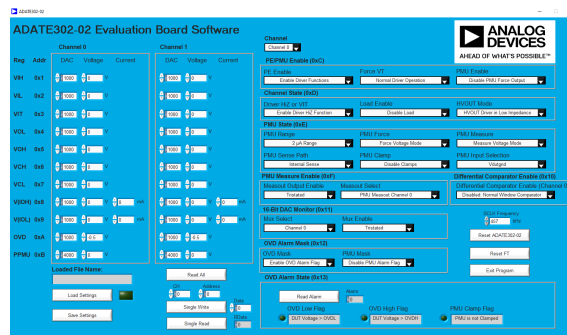
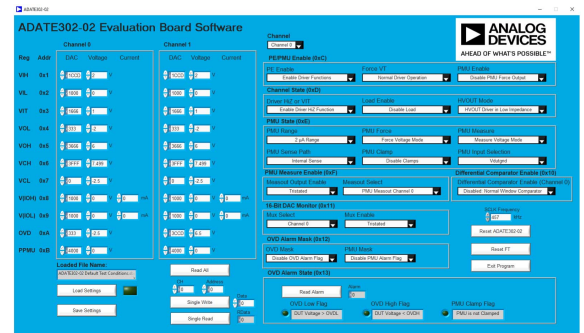
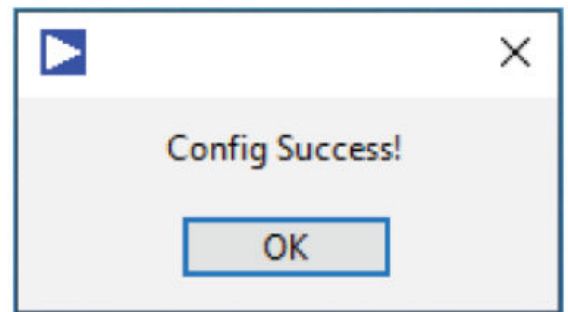

Figure 4. ADATE302-02 Main Window
Figure 7. User Interface Default Values
Figure 8. Configuration Success Prompt
- a. When the **ADATE302-02 Evaluation Board Software** opens, the main window opens if there are no issues (see Figure 4) and displays configuration success (see Figure 8). Otherwise, a command prompt indicating any error appears. Figure 5 shows examples of error prompt. Follow all the recommendations within the prompt window before attempting to start the software again.
- c. To verify the hardware communication, load the **ADATE302-02 Default Test Conditions.sbus** file. If the EV-ADATE302-02EBZ successfully communicates with the PC, the software user interface (see Figure 7) reflects the default values (see the ADATE302-02 data sheet for more information). If the user interface does not reflect the default values, perform the following steps:
6. Open the **ADATE302-02 Evaluation Board Software**, the command prompt displays configuration success (see Figure 8). Then, load the **ADATE302-02 Default Test Conditions.sbus** file to confirm if the user interface reflects the default values of the registers (see Figure 7).
2. When the search displays the **ADATE302-02 Evaluation Board Software**, select it. The main **ADATE302-02 Evaluation Board Software** window opens as shown in Figure 4. Load the **ADATE302-02\_default.sb** file after startup.
- ▶ The **Reset FT** and clock speed controls are located in the lower right of the GUI (see Figure 4).